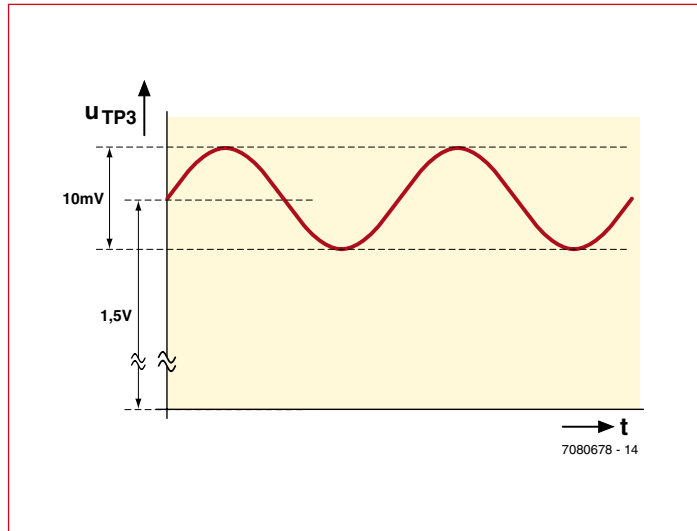

Figure 4. The signal after amplification by opamp IC1a.
The third part (C) of the analogue portion contains opamp IC1a, which is configured with R4 and R5 as a non-inverting amplifier with a voltage gain of 200. This yields a sinusoidal voltage with an amplitude of $10\ \text{mV}$ at the output of the opamp (LM358 pin 1, or TP3), superimposed on a DC voltage of $1.5\ \text{V}$ (**Figure 4**). This voltage forms the input signal of part D of the circuit, which consists of two passive low-pass filters (R6/C5 and R7/C4). In addition to attenuating HF interference, which is unavoidably present when the top is used close to a source of electromagnetic interference such as a PC, the differing time constants of these filters (C4 is much larger than C5) produce a phase offset between the filter outputs at TP4 and TP5. This can be seen graphically in **Figure 5**.